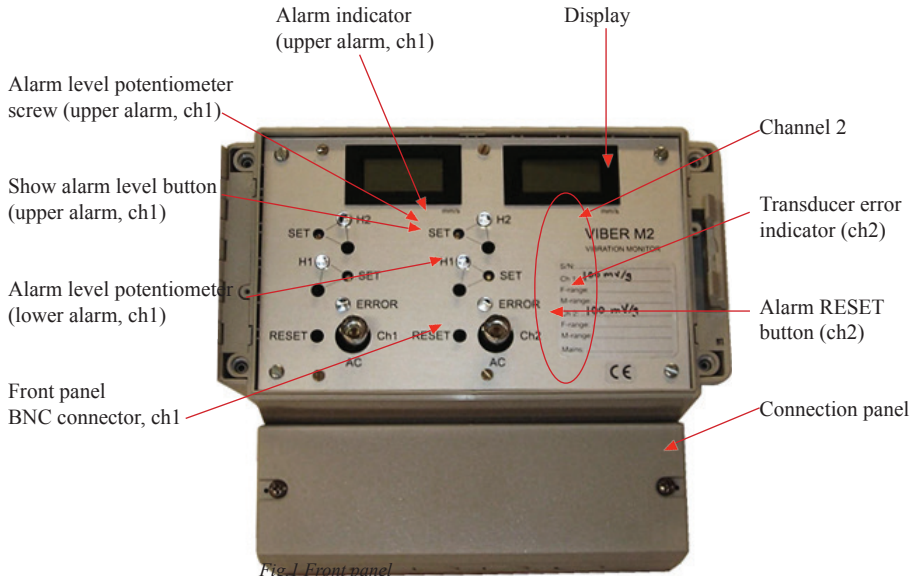

Fig. 1 Front panel
**Relay 1** acts on alarm level H1 (see fig 1. Front panel)